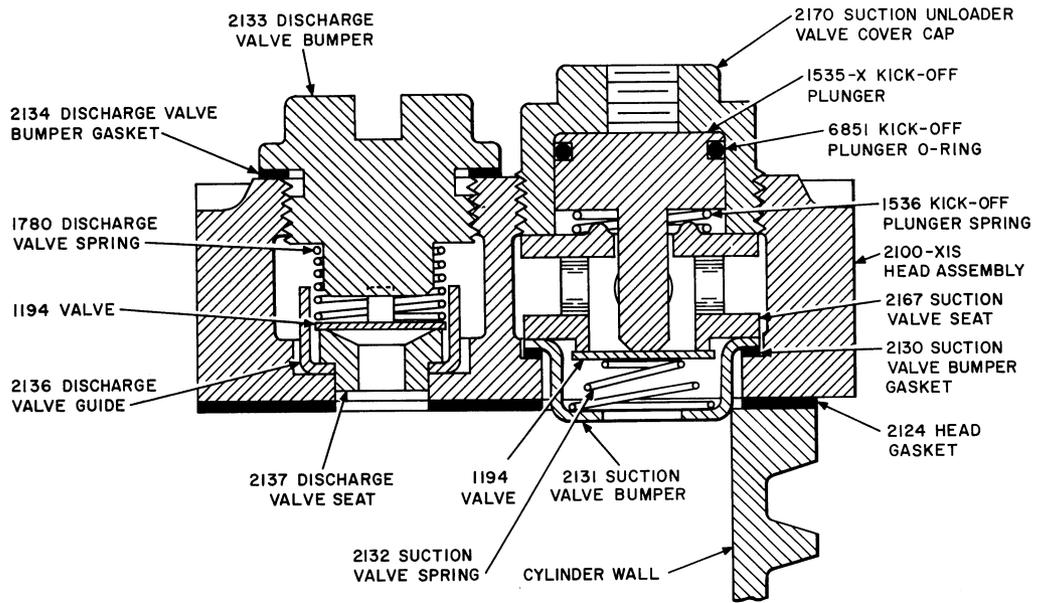

Fig. 6—KS-16432 L1 Air Dryer—Air Compressor Head Assembly (Suction Unloader and Discharge Valves)
- (1) Turn off the master stop-start switch and disconnect the dryer from the ac supply.
- (2) Remove the belt guard mounting screws at each end of the guard using the 3-inch screwdriver and remove the guard.
- (3) Remove the valve mounting screw using the 7/16- by 1/2-inch wrench (Williams No. 8725).
- (4) Remove the valve stop and flapper.
- (5) Wipe the valve seat, stop, and flapper with a KS-14666 Cloth slightly moistened with petroleum spirits.
- (6) Replace the valve on the compressor. Clearance between the valve stop and free end of the flapper should be 0.030 to 0.035 inch. Use the KS-6938 Gauge to measure the clearance and manually bend the stop as necessary.
- (7) Replace the belt guard.
- (8) Reconnect the ac power supply and turn on the master stop-start switch.
F. Suction Unloader and Discharge Valves (Fig. 6 and 7)
Suction Unloader Valves—L1 Dryers (Fig. 6)
- (1) **Serial Numbers Below 3000:** Disconnect the flexible tube assembly from the elbow on the suction unloader valve cover cap using the R-2512 8-inch wrench and remove the assembly.
- (2) **Serial Numbers 3000 and Up:** Disconnect the two flexible tube assemblies at both ends of the head using the R-2512 8-inch and R-2652 9-inch wrenches, and remove the assemblies.
- (3) **All L1 Dryers:** After completing (1) or (2), remove the suction unloader valve cover cap (Fig. 6) using the R-2593 7/8- by 1-1/16 inch wrench. Remove the kickoff plunger, kickoff plunger spring, suction valve seat, valve, valve spring, and valve bumper. Examine the valve bumper gasket and replace if necessary. Remove and discard the kickoff plunger O-ring and spring.
- (4) Clean the parts removed with a KS-14666 Cloth moistened with petroleum spirits and then a clean, dry cloth. Before reassembling the valve parts, check the suction valve spring by placing the spring and the valve in the valve bumper and then compressing and releasing the valve. If the valve does not snap back when released, replace the valve spring. Substitute other new parts if necessary.
- (5) Reassemble the valve, using a new kickoff plunger spring, as shown in Fig. 6. **Make certain the valve bumper is seated properly.** This is done by aligning one of the indented ribs of the valve bumper with the air inlet port of the head assembly. Before mounting the kickoff plunger in the valve seat, put a new O-ring in the groove and wipe the plunger using a clean cloth moistened with KS-16729 L1 Oil. Wipe the inside of the valve cover cap using a clean cloth moistened with KS-16729 L1 Oil and then mount the cap. Remount the flexible tube assemblies if the discharge valve is not to be cleaned.
(1) Remove the discharge valve bumper using the Quincy No. N6663 Valve Removal Tool and the R-2806 ratchet handle. Remove the valve spring and valve. Clean the parts removed and the valve seat with a KS-14666 Cloth moistened with petroleum spirits and then a clean, dry cloth. Examine the cleaned parts and make replacements if necessary.
(2) Reassemble the discharge valve as shown in Fig. 6. Before assembling the valve parts, check the valve spring by placing the spring and valve on the valve bumper and then depressing and releasing the valve. If the valve does not snap back when released, replace the valve spring. When mounting the valve bumper, examine the gasket and replace if necessary. Reconnect any flexible tube assemblies removed.